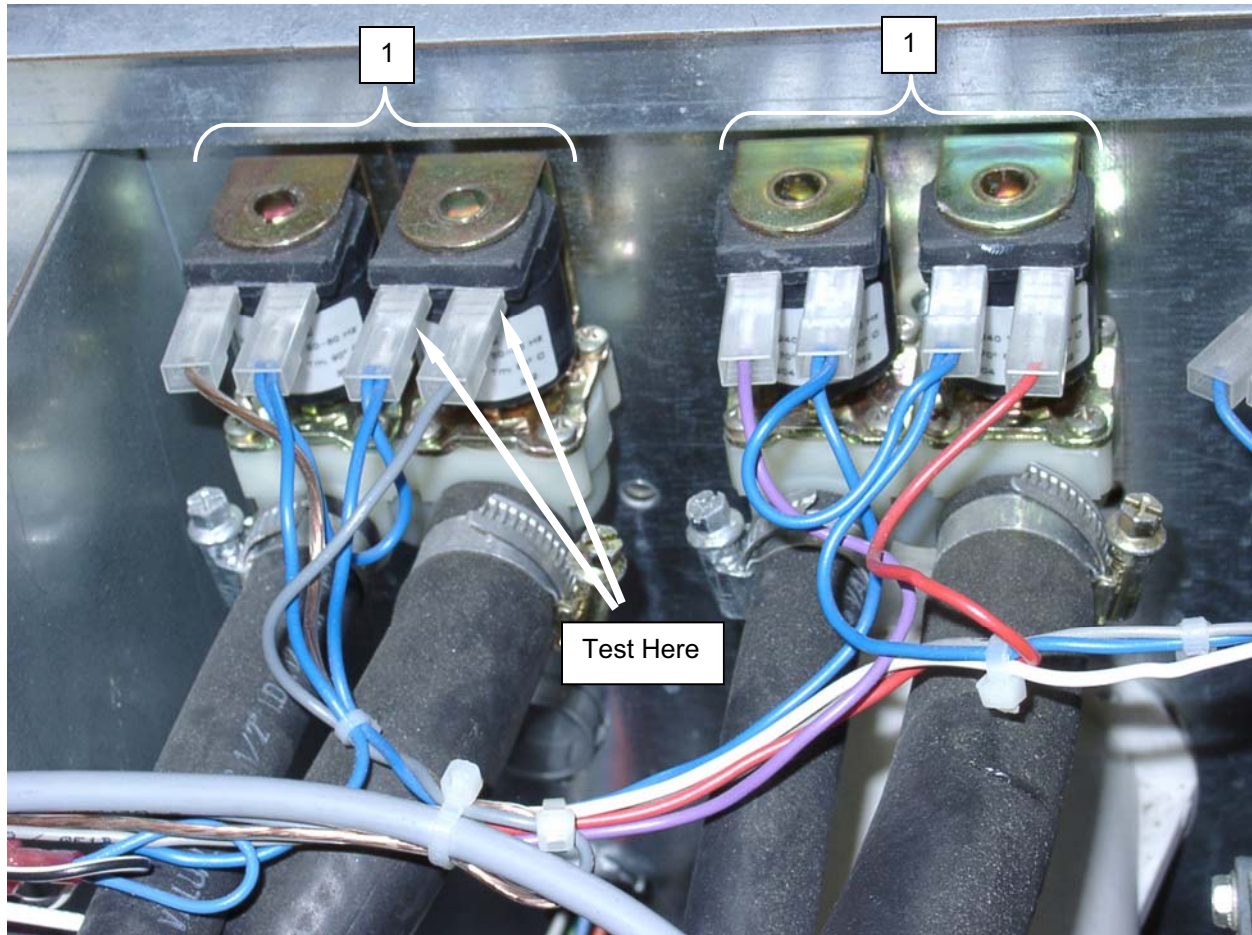

Figure 1. Test the Washer Water Inlet Valve (2-Way Valve).
2. Tag and disconnect wiring from valve (**Figure 1, Item 1**).
4. Replace a valve (**Figure 1, Item 1**) with an open solenoid.